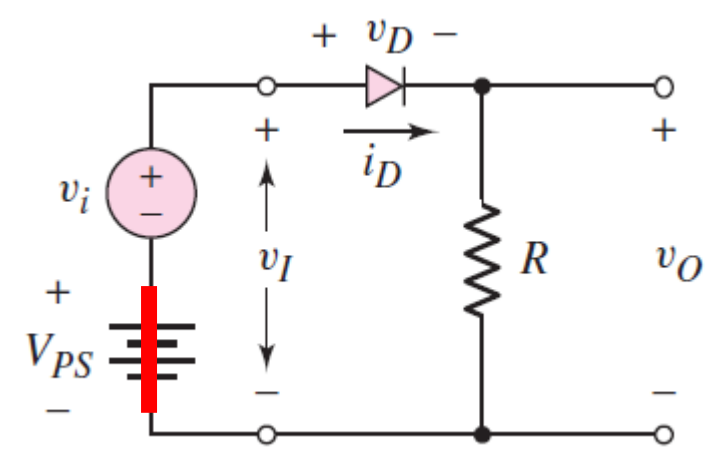

Figure 1.35(a)
- **Objective:** Analyze the circuit shown in Figure 1.35(a).